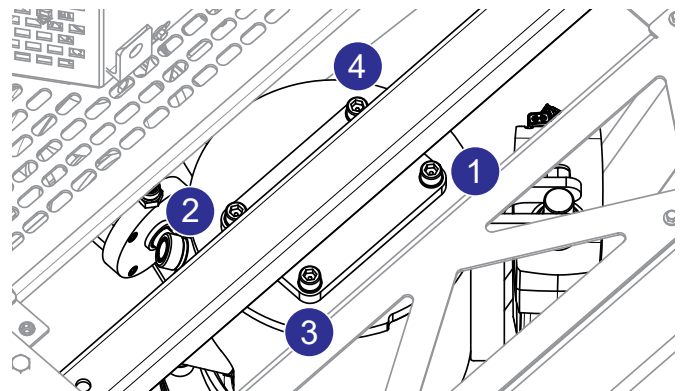

Figure 11. Torque Sequence
- Re-torque all four M12-1.75 × 30 mm SHC bolts (P/N 939654) to 75 lbf-ft in the sequence shown in Figure 11.